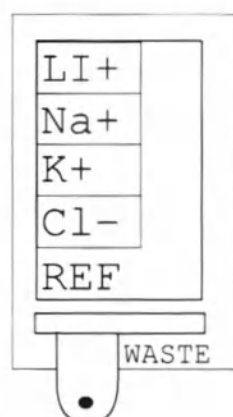

Figure 116 Order for positioning the different electrodes
7. To put the electrodes back in position, press the yellow button down and first insert the reference electrode and then the other electrodes, in the order shown in Figure 116.